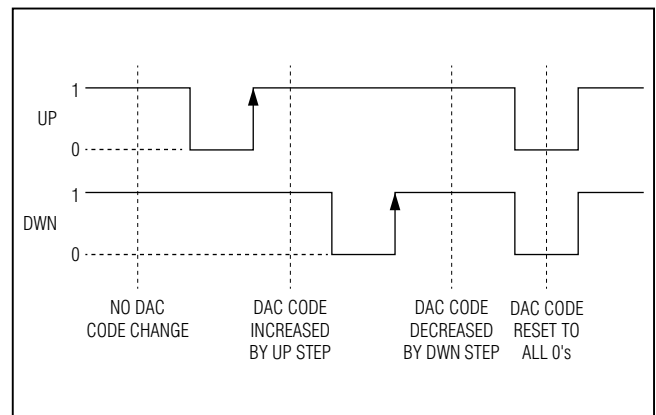

Figure 3. UP/DWN Control Diagram (MODE = 1)
After powering up the device, UP and DWN should both be set to 0 to reset the m and n counters to 0. This results in a 10-bit all 0 code out of the mathematical block in Figure 1, and applied to the 10-bit DAC register that drives the DAC. To increase (decrease) the code using the UP (DWN) pin, the DWN (UP) pin must be high and the UP (DWN) pin should be pulsed low to high. The device is designed to produce no wraparounds when using UP and DWN stepping so that the DAC code maxes out at 1023 or goes no lower than 0. See Figure 3 for the UP and DWN control operation.